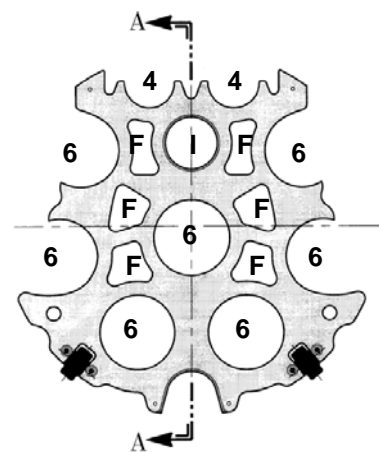

Figure 5. 7-6" & 2-4" Conduits
- E. Figure 5 Bore Spacer, **1.578"** maximum float.